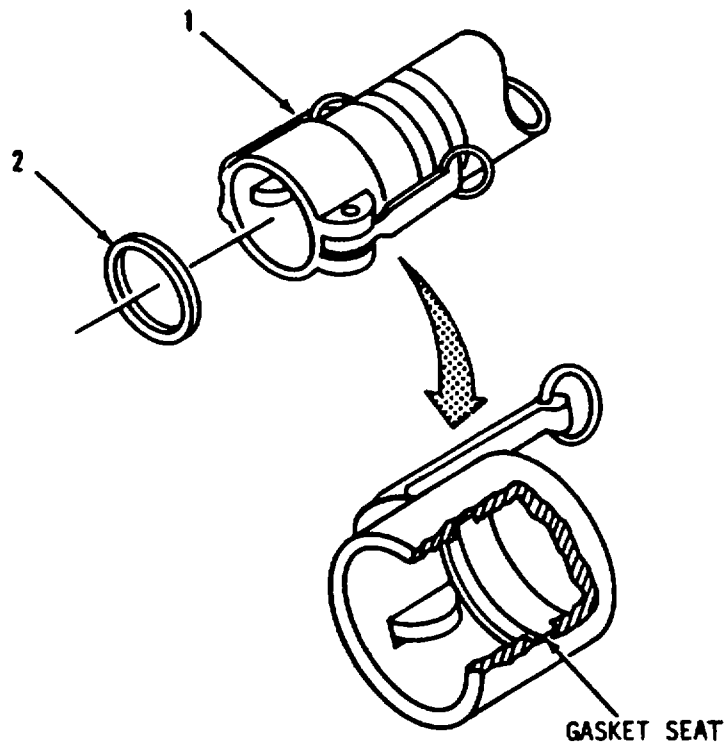

Figure 3-2. Quick Disconnect Repair
a. Removal. Refer to Figure 3-2.
(1) Disconnect female coupling (1) from water system (para. 2.7c).
(2) Pull gasket (2) from interior of female coupling (1).
b. Installation. Refer to Figure 3-2.
(1) Using clean wiping rag, remove grit, sand, and dirt from gasket seat inside female coupling (1).
(2) Position replacement gasket (2) in female coupling (1).
(3) Press gasket (2) into gasket seat inside female coupling (1). There will be no ripples or bumps in gasket material when gasket is properly installed.
(4) Connect coupling (1) to water system (para. 2.7c).
(5) Start up water system (para. 2.9c) and test coupling (1) for leaks.